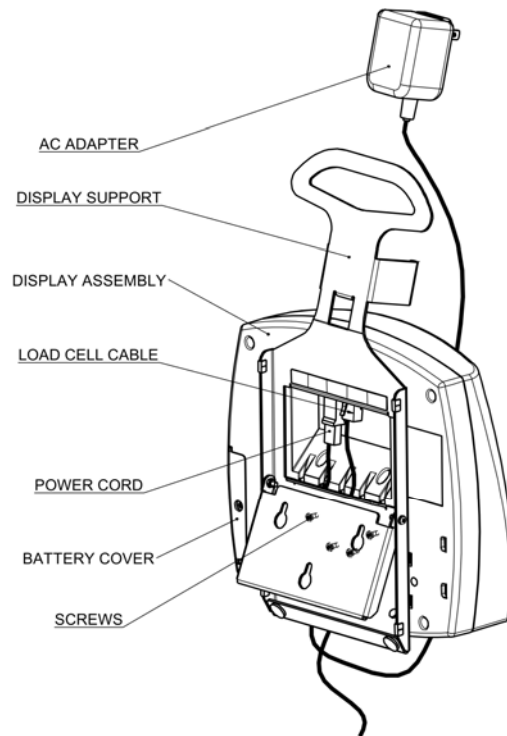

Figure 2
3. Connect the load cell cable to the display unit see Figure 2.